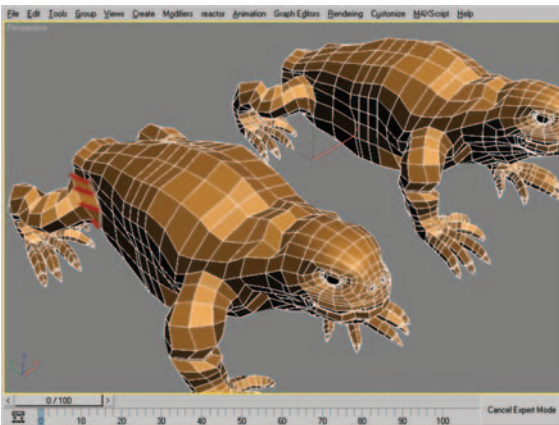

Figure 9.87 Ring selection (left) and mesh after using Collapse on the ring selection (right).
50. At the Edge subobject level, select the edge ring that makes up the unwanted row of polygons (Figure 9.87, left) and use Collapse to eliminate the polygons (Figure 9.87, right).